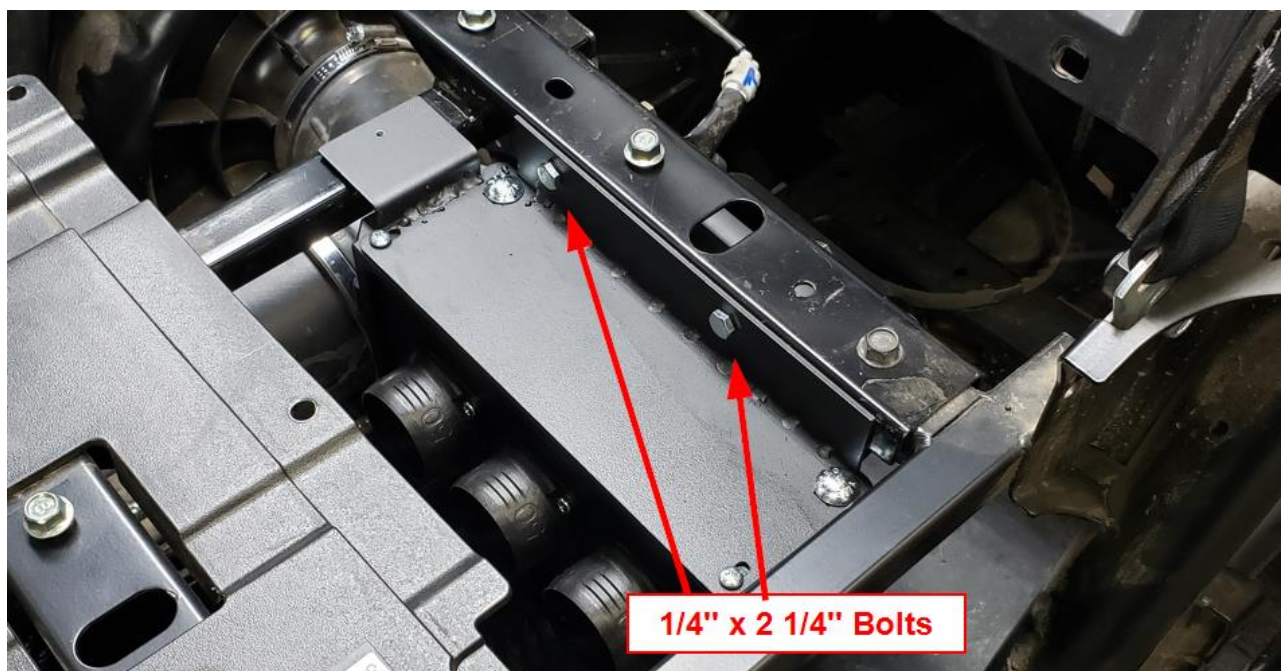

Figure 32
- e. Position the heater under the driver seat as shown in Figure 32, secure the heater in place using the two 1/4" x 2 1/4" Serrated Flange Bolts and 1/4" Serrated Flange Nuts as shown.